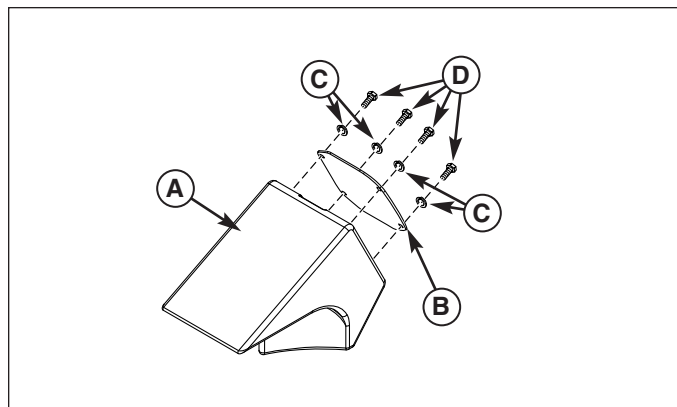

Figure 12. Install Plate to Mulch Plug
1. Secure plate (B, Figure 12) to the mulch plug (A) using 1/4-20 x 3/4 capscrews (D) and 1/4 lockwashers (C).